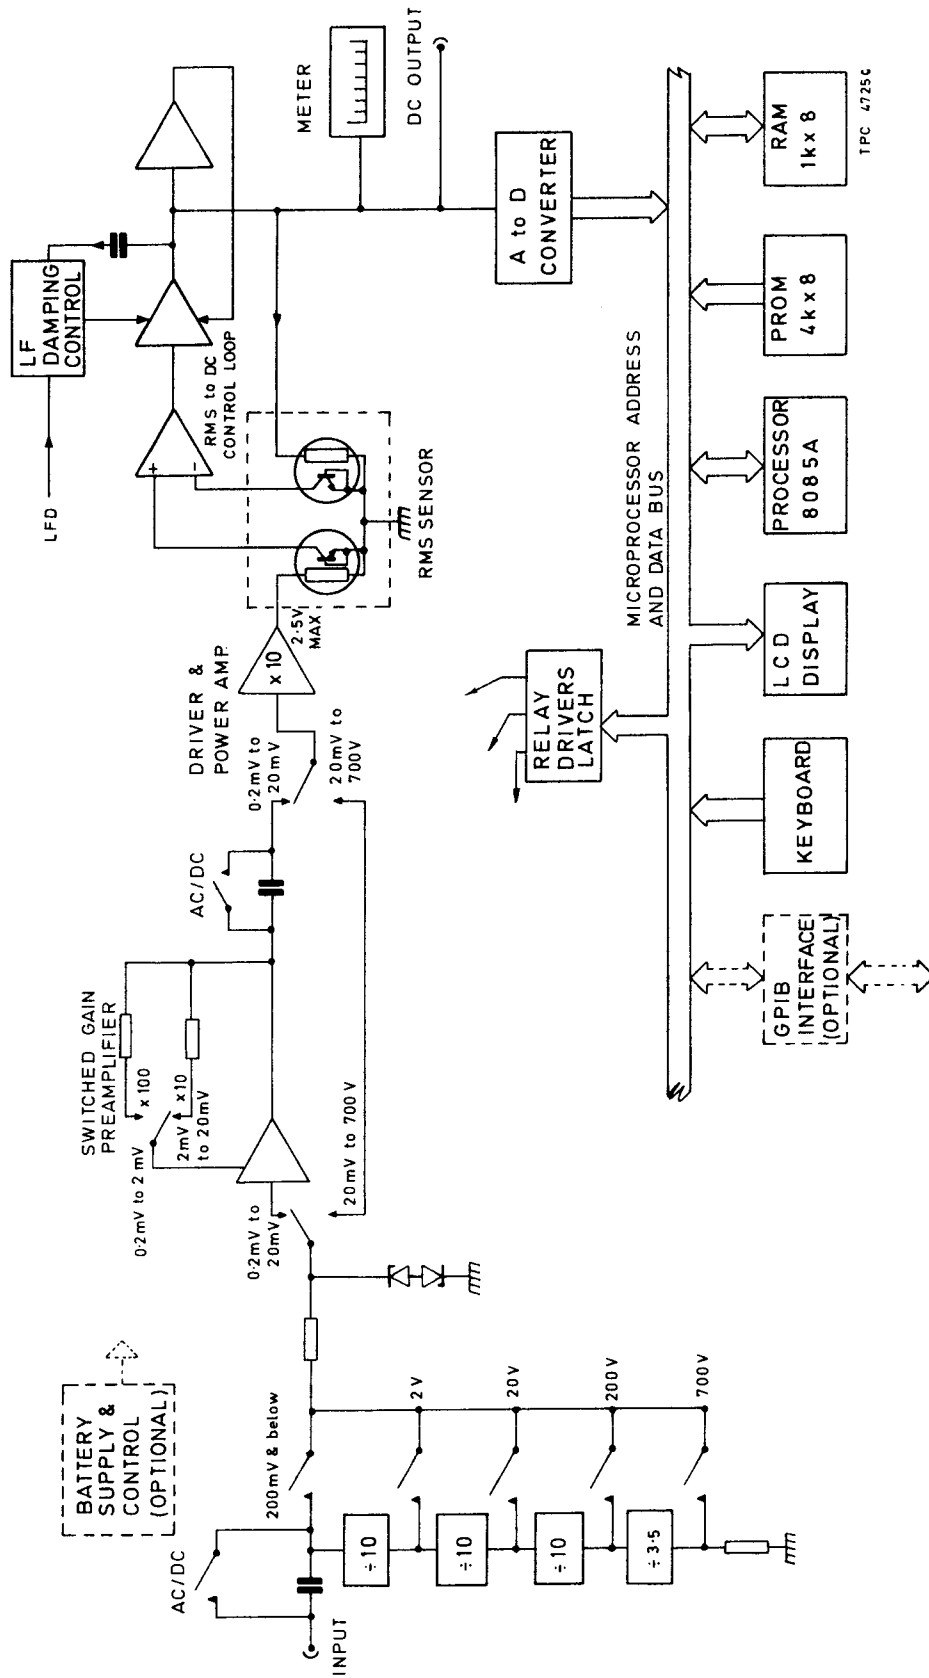

Fig. 1 2610 : simplified block diagram
Block diagram : Fig. 1
6. The input and amplifier circuits, RMS converter, A-D converter, microprocessor system and power supply circuits are all contained on the motherboard AB01. Chap. 7, Fig. 1 shows the connections from the motherboard to the display board AC01 and the keyboard AC02 and also the battery and GPIB option connectors.